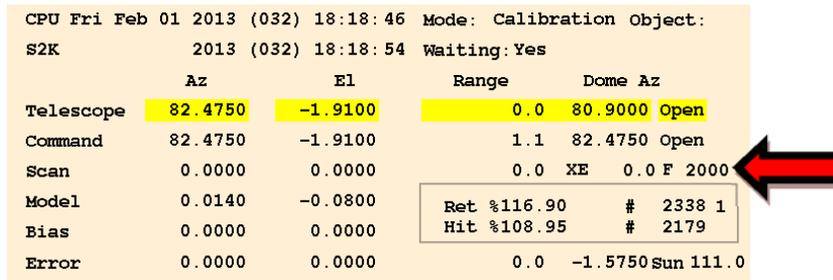

Figure 6-13: Ratgui main window showing that the SLR laser is firing at 2 kHz
10. **Make sure the laser is firing at the correct rate** (approx. 2 kHz) – This should show up on the main RAT menu (Figure 6-13).